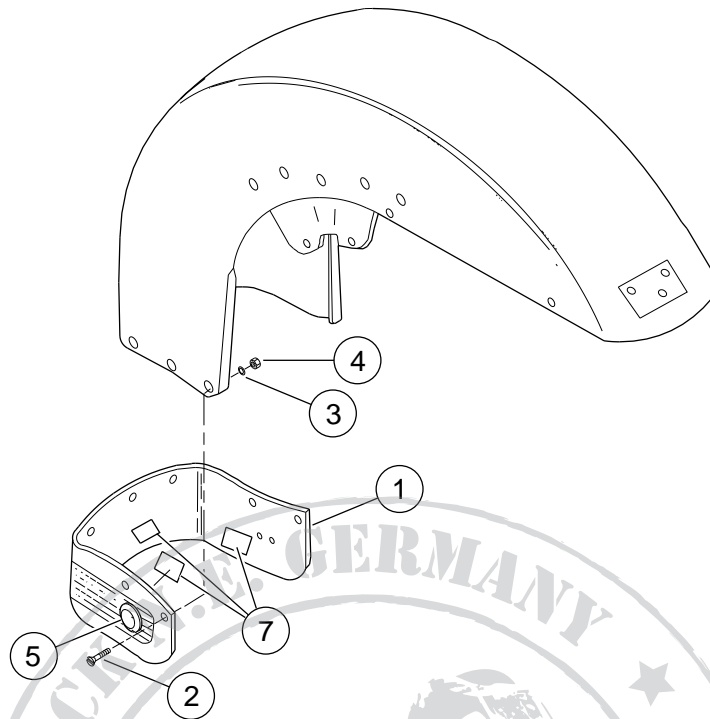

Figure 2. Service Parts: Skull Front Fender Skirt Kit
See Figure 2 and Table 1.
1. See Figure 2. Remove screws, washers and nuts securing existing fender skirt to fender. Discard fender skirt and hardware.